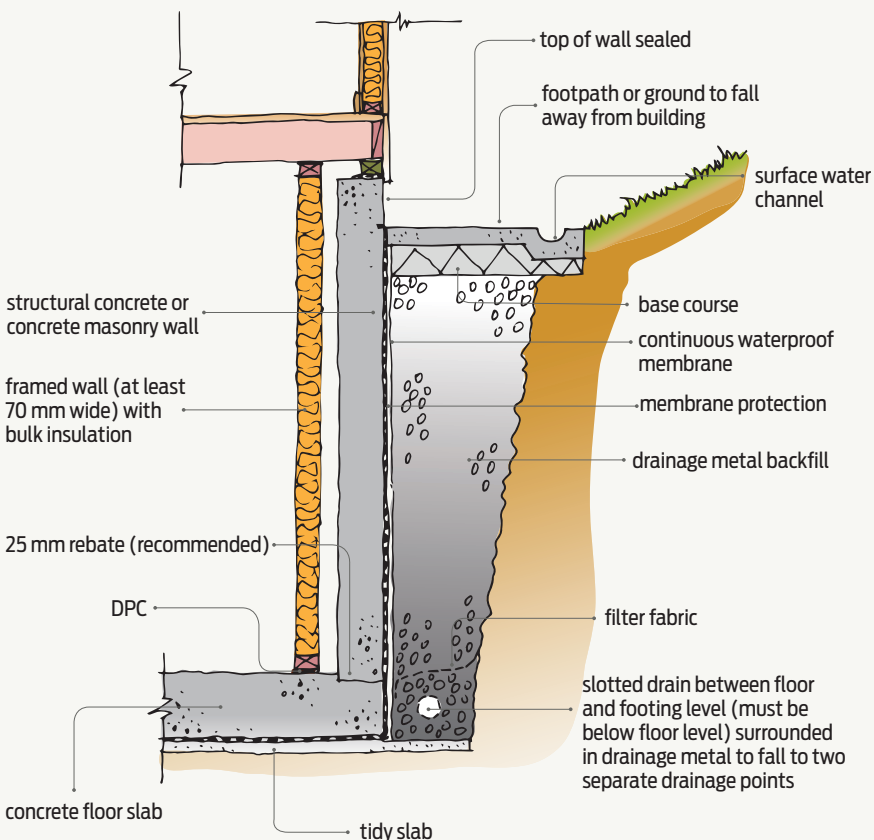

Figure 1 Constructing an insulated framed wall inside the basement wall.
- construct a 70 mm minimum wide framed wall on the inside of the masonry wall (see Figure 1)